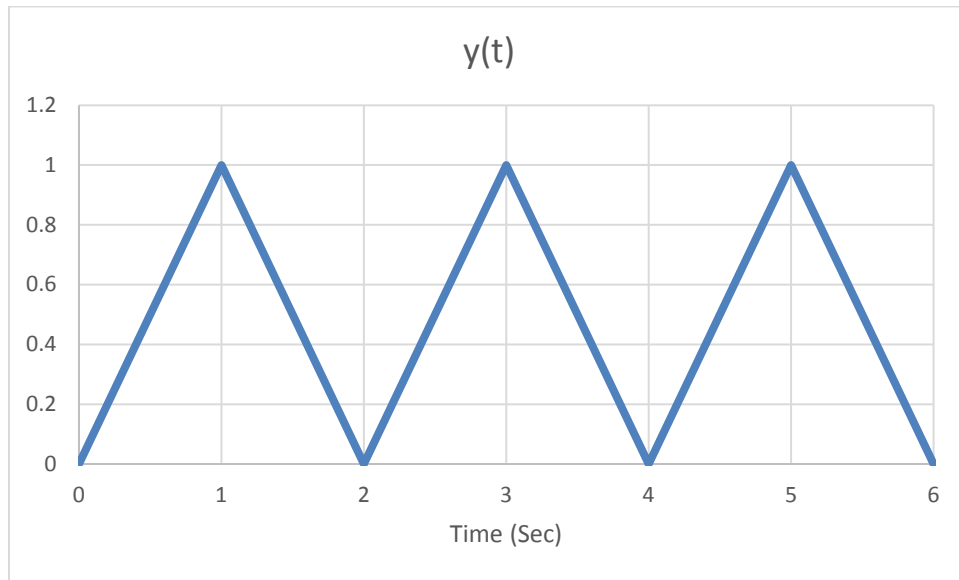

Figure 1 - Plot of $y(t)$
2. Figure 1 shows a plot of $y(t)$. Sketch the derivative of $y(t)$.